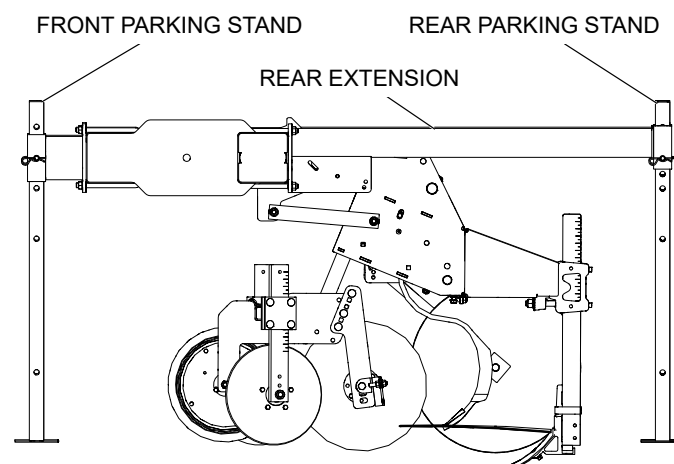

Figure 18 Front & Rear Parking Stands
1. Lower front parking stands to the ground and pin in position so that parking stands will be vertical when the tractor is removed. See Figure 18.